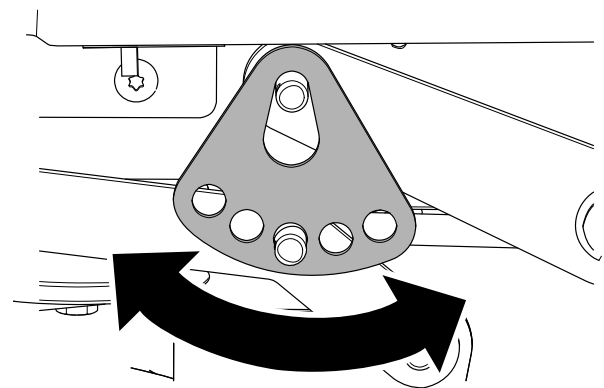

**Figure 61**
6. Remove the hairpin cotter and washer from the lower lift-arm pin (Figure 61).
8. Install the washer and hairpin cotter (Figure 61).